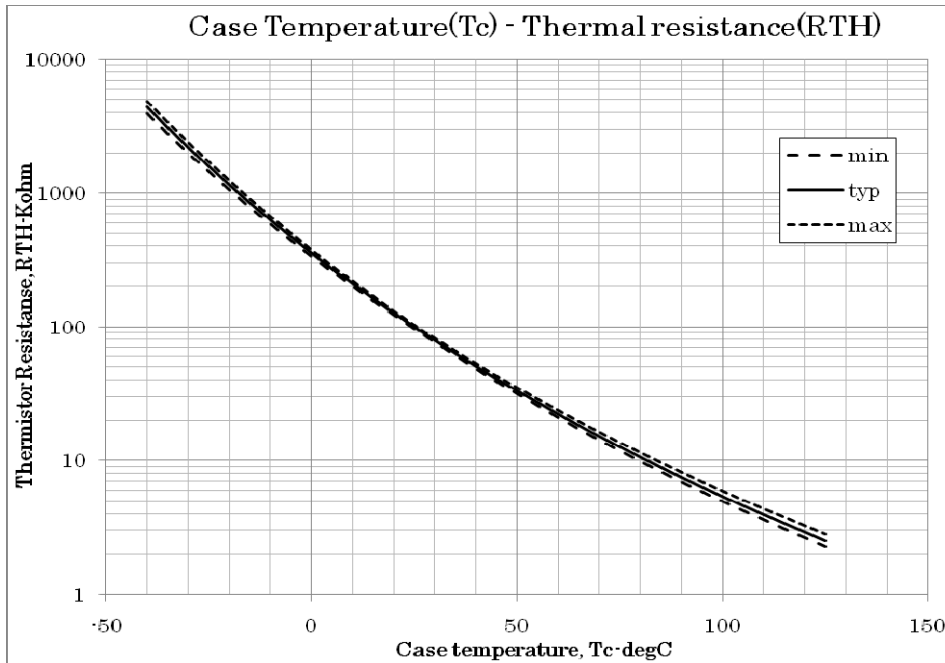
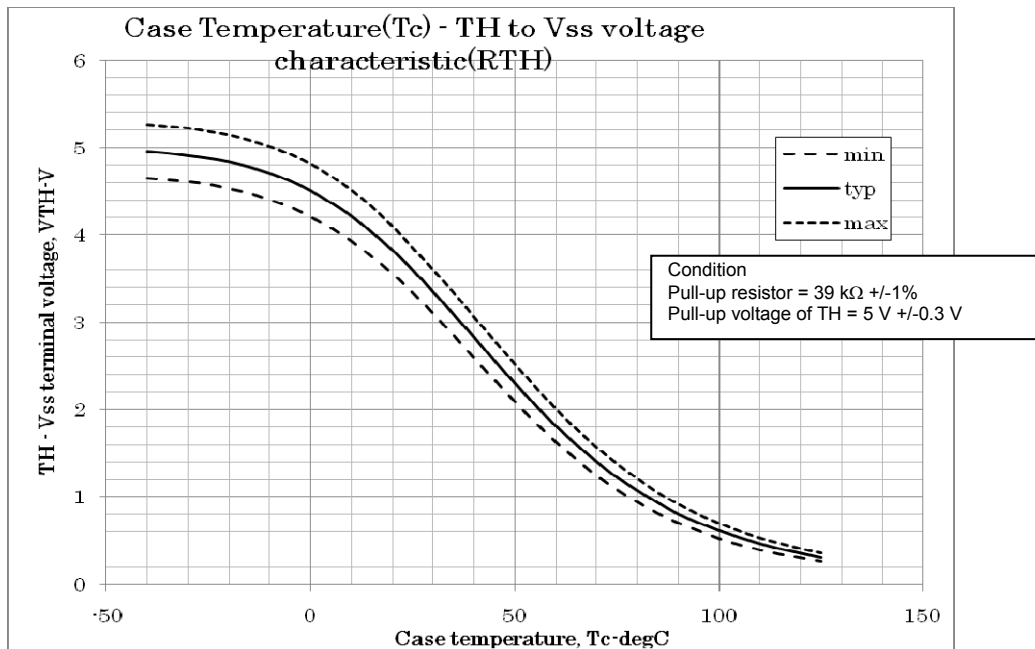

Fig.11 Variation of thermistor resistance with temperature
Fig.12 Variation of temperature sense voltage with thermistor temperature
5. Inside the IPM, a thermistor used as the temperature monitor for internal substrate is connected between V_{SS} terminal and TH terminal, therefore, an external pull up resistor connected between the TH terminal and an external power supply should be used. The temperature monitor example application is as follows, please refer the Fig.11, and Fig.12 below.